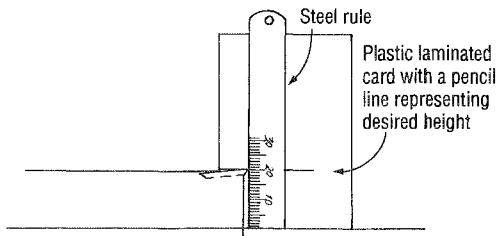

Fig. 5.27 Setting the cutter height.
2. Set the block height with either a rule measuring to a specific point or a setting card (**Fig. 5.27**).